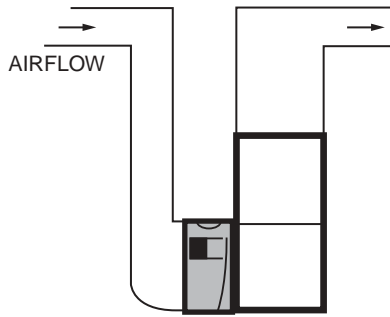

FIGURE 4
- Figure 5 shows the dimensions for both air cleaners. If a transition duct is required, see figure 4 for recommended duct angles.